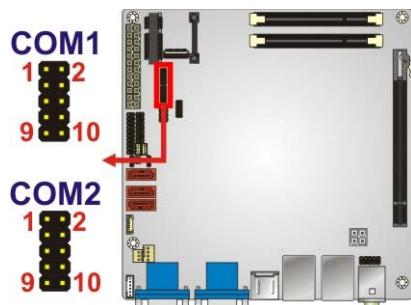

Figure 3-20: RS-232 Serial Port Connector Locations
**CN Location:** See Figure 3-20